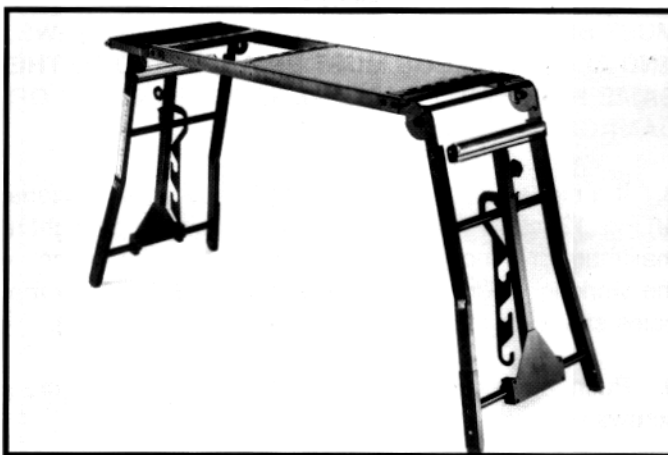

Fig. 10
3. Fig. 10, illustrates the saw stand in the upright position with the two legs locked in place.